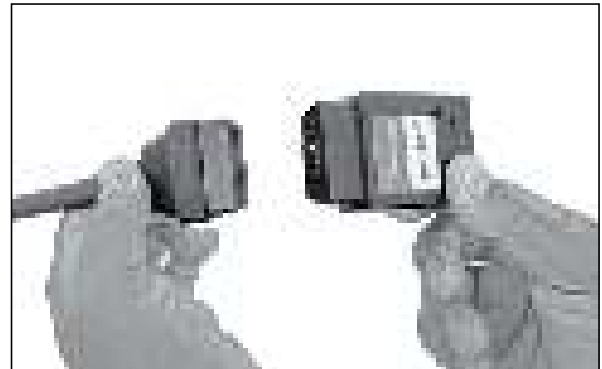

Fig. 7.3
- Assemble VCI and connector cable as shown (6 to 16 pin). (Fig. 7.3)